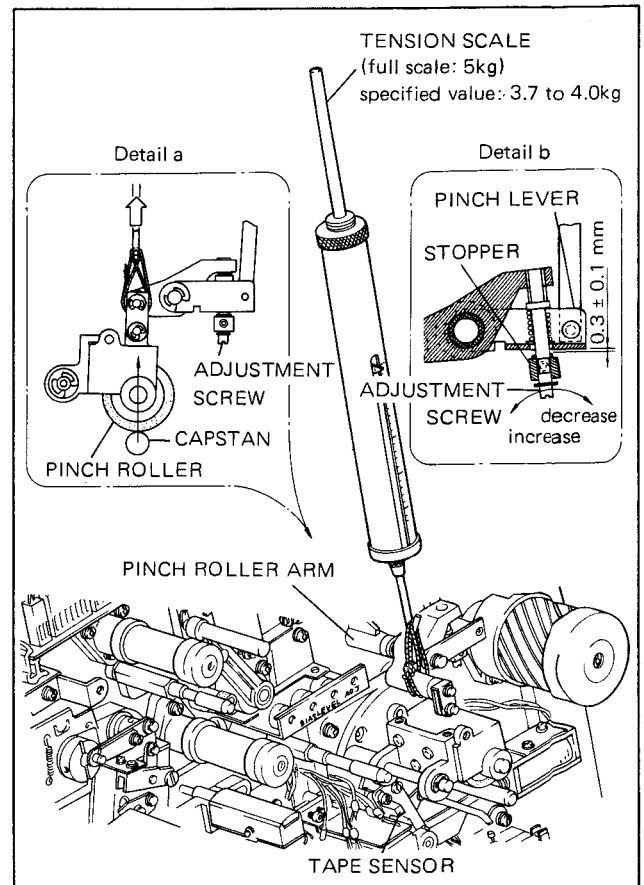

Fig. 3-49. Pinch Roller Pressure Adjustment
11. Apply the 5 kg tension scale as shown in Fig. 3-49 to the pinch roller arm. Pull the tension scale in the direction connecting the capstan and the pinch roller as shown by the arrow in detail a, separate the pinch roller once from the capstan, and wait until the rotation of the pinch roller stops. Return the tension scale in direction of the capstan, and confirm that the indication value of the tension scale is 3.7 to 4.0 kg when the pinch roller starts to rotate again. If necessary, adjust according to the following step.
- B. When the solenoid has been replaced, the pinch roller pressure must be adjusted. Refer to Fig. 3-49.
7. Use the string to attach the 5 kg tension scale to the pinch roller arm (refer to Fig. 3-49), pull in the direction connecting the capstan and the pinch roller, and separate the pinch roller from the capstan. Wait until the rotation of the pinch roller stops, return the pinch roller slowly towards the capstan, and confirm an indication value of 3.7 to 4.0 kg for the tension scale when the pinch roller again starts to rotate. If not, adjust the pressure adjustment screw.
8. When the pressure has been adjusted, apply locking compound to the threaded part of the adjustment screw. Next, when the pinch roller pressing against the capstan, confirm that the clearance between the pinch lever and the stopper is 0.3 ± 0.1 mm as shown in Fig. 3-49.